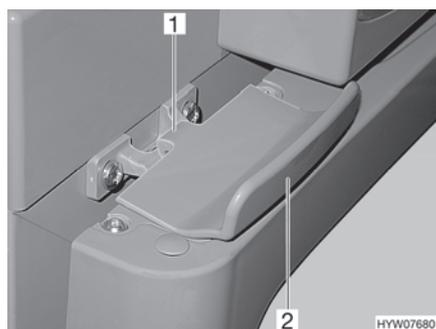

Fig. 134 Lock of refrigerator door, closed (Thetford)
- Open the refrigerator door at the handle (Fig. 134,2). The lock (Fig. 134,1) is released automatically.